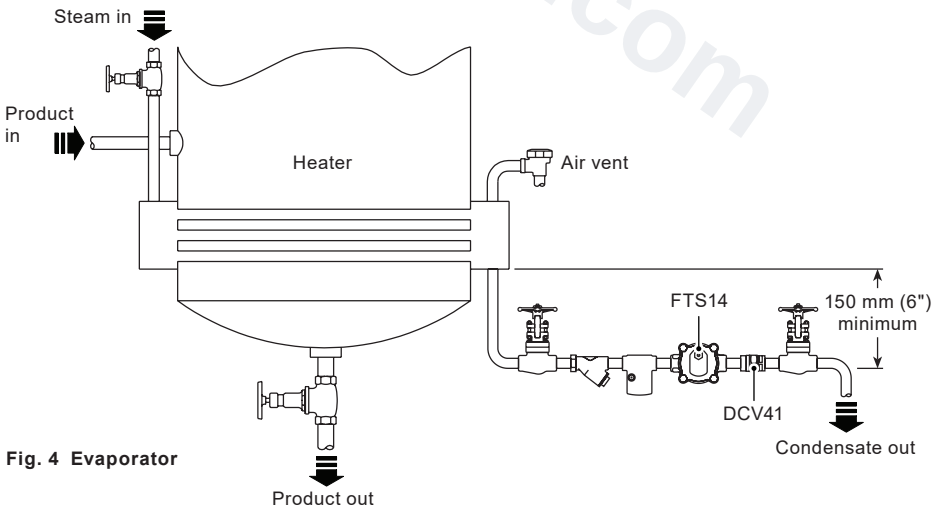

Fig. 4 Evaporator
- 3.7** Traps should be fitted below the outlet of the steam system with a small drop leg immediately preceding the trap - Typically 150 mm (6") see Figure 4. If no drop leg is allowed then it may be possible (under low load conditions) for steam to flow over the condensate in the bottom of the pipe and reach the trap.
- 3.8** Always fit a non-return (check) valve downstream of any steam traps which discharge into condensate return lines where back pressure is experienced. This is most commonly caused by a rising condensate line. The check valve will prevent the steam space flooding when the inlet pressure is reduced or the steam is shut off. Use a suitable valve such as the Spirax Sarco DCV41, see Figure 4.